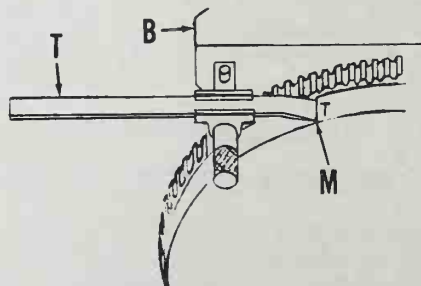

Fig. V1-2—With timing tool 2068 (T) attached to cylinder block (B) as shown, number 1 piston is at TDC when TDC mark (M) aligns with tool point.
Install VW tool 2068 (T—Fig. V1-2) on flywheel end of cylinder block (B) as shown. Rotate flywheel so number 1 piston is on compression and TDC mark (M) is aligned with tip of timing tool (T). Remove plug from rear of injection pump and install a dial gage as shown in Fig. V1-3. Preload gage so dial reading is 3 mm. Turn flywheel clockwise until dial needle just stops, then zero dial gage. Turn flywheel counterclockwise until dial gage reads 0.83 mm. Flywheel TDC mark (M—Fig. V1-2) should be aligned with pointer of timing tool (T). If not, rotate flywheel so TDC mark aligns with timing tool point. Loosen injection pump mounting screws and carefully rotate injection pump so dial gage reads 0.83 mm. Retighten pump mounting screws to 24.5 N·m. If necessary, construct new timing marks on pump mounting flange and pump mounting plate. Remove dial gage and install plug.
Use the following procedure for correct valve timing when installing timing belt: Rotate crankshaft so number 1 piston is on compression and top dead center mark (M—Fig. V1-2) on flywheel is aligned with pointer of Volkswagen timing tool 2068 (T). Camshaft sprocket must be loose on camshaft taper, if not, loosen sprocket retaining screw approximately one-half turn and tap sprocket loose. Loosen and rotate tensioner pulley to maximum slack position. Remove camshaft cover. Note slot (S—Fig. V1-4) in rear of camshaft and turn camshaft so both cam lobes for number 1 cylinder are pointing up. Install Volkswagen tool bar 2065 (B—Fig. V1-5) in camshaft slot to position slot parallel with head surface. Rotate injection pump sprocket and insert tool 2064